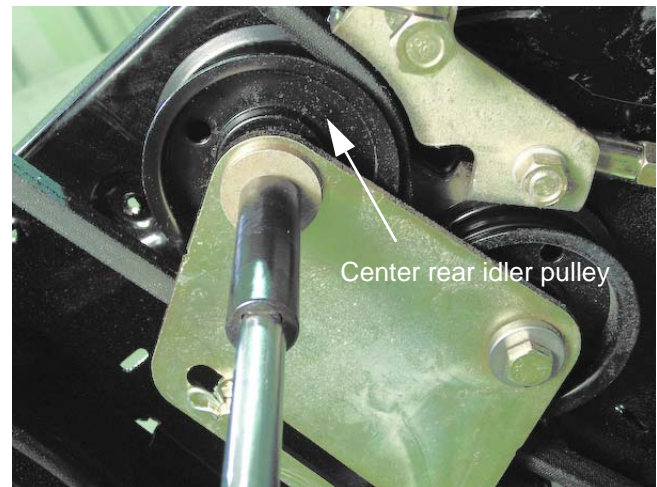

Figure 5.41
7. Using a half inch socket, remove the hex bolt securing the center rear idler pulley to the double pulley bracket. Remove the bolt, lock washer, hex spacer, pulley and nut from the bracket. See Figure 5.41.